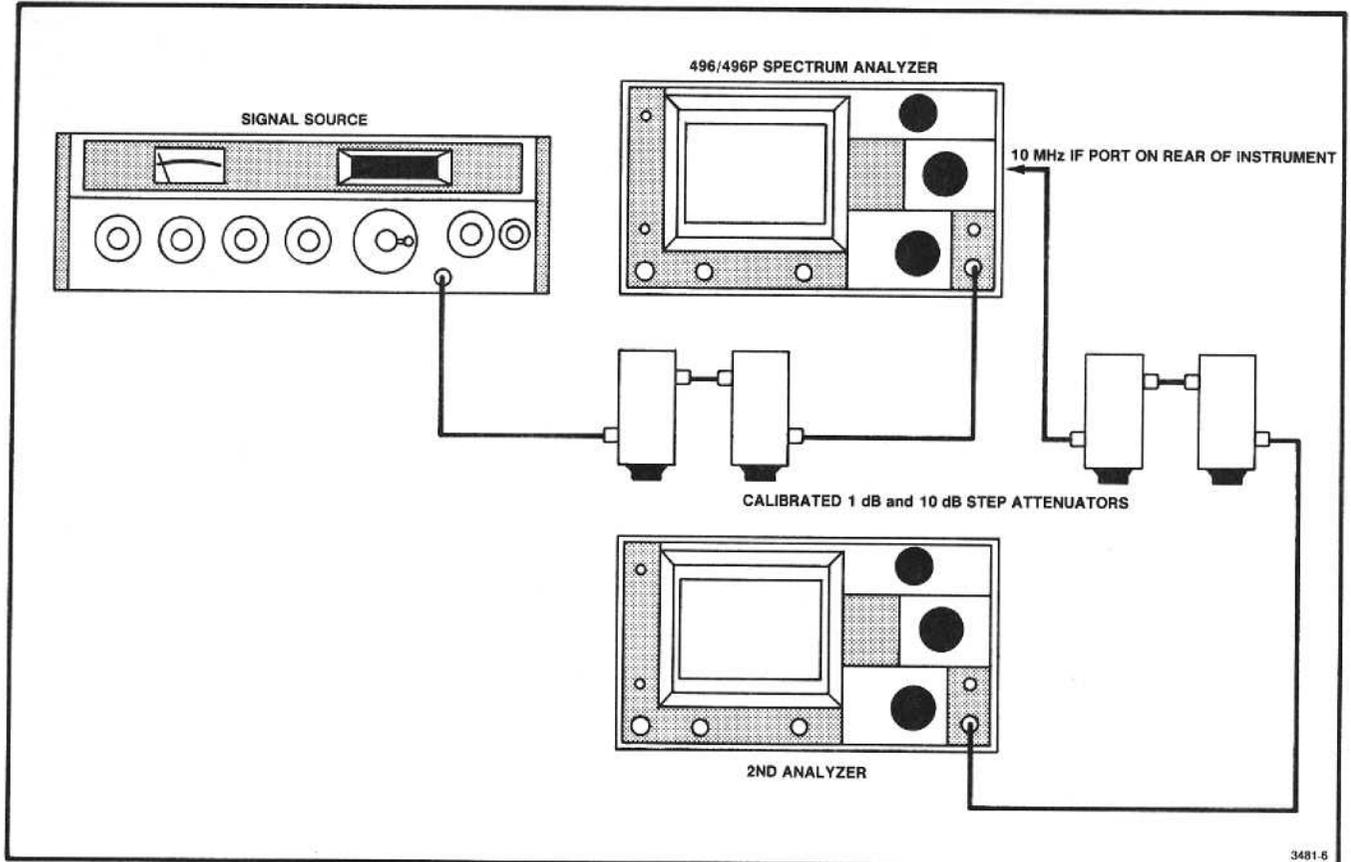

Fig. 3-4. Test equipment setup for checking input 1 dB compression level.
a. Test equipment setup is shown in Fig. 3-4. Apply a 100 MHz 0 dBm signal from the signal generator through 1 dB and 10 dB step attenuators (set at 20 dB) to 496/496P RF INPUT. Apply the signal from the 10 MHz IF port (bnc connector on the rear of the 496/496P) through a second pair of 1 dB and 10 dB step attenuators (set at 0 dB) to the RF input of a second spectrum analyzer. Set the front-panel controls of the 496/496P as follows: